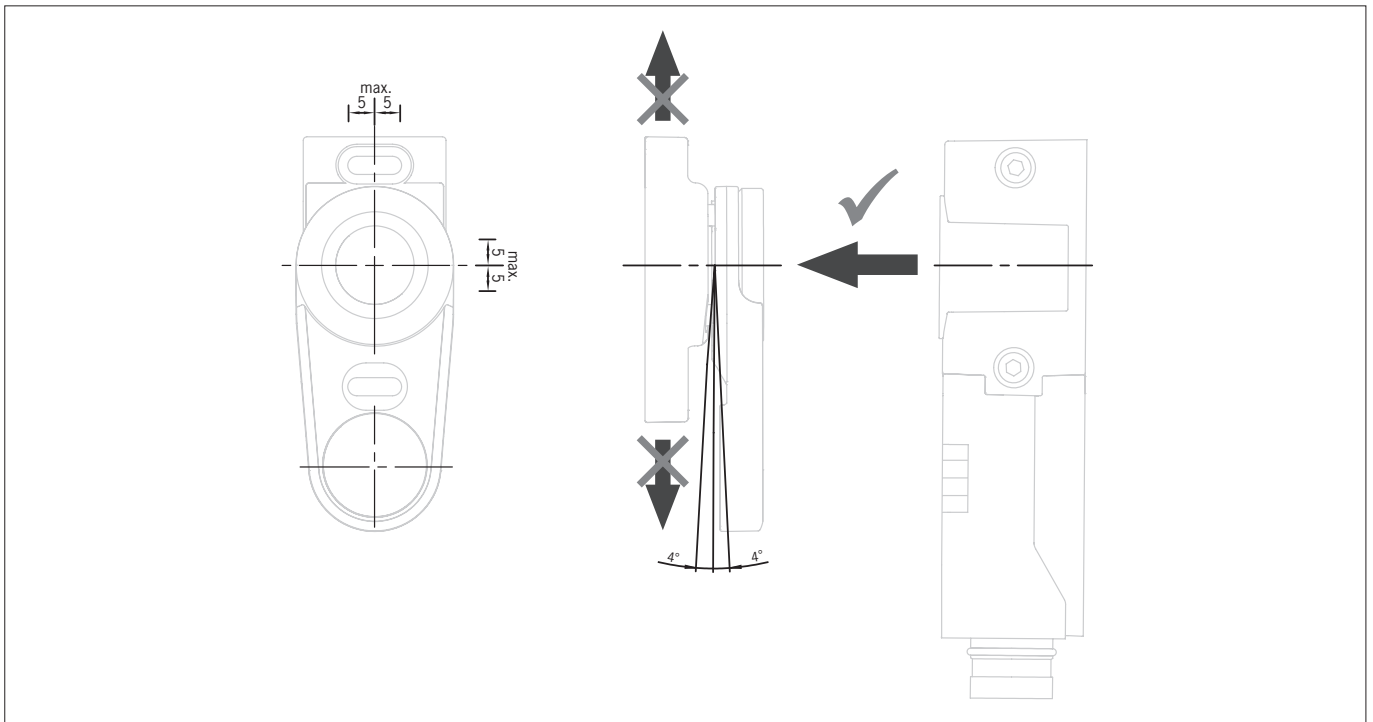

Figure 3: Approach direction, maximum center offset and maximum actuator angle
- › When the safety door is opened, the actuator must be moved away from the switch toward the front (see *Figure 3: Approach direction, maximum center offset and maximum actuator angle on page 10*).